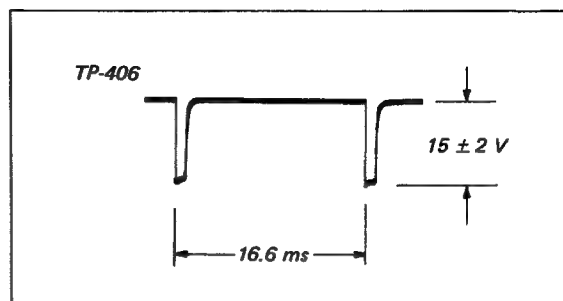

Fig. 6-6. Control track pulse check
Check: Waveforms in Fig. 6-6.
3. Connect the scope to TP-406 and check the waveform shown in Fig. 6-6.